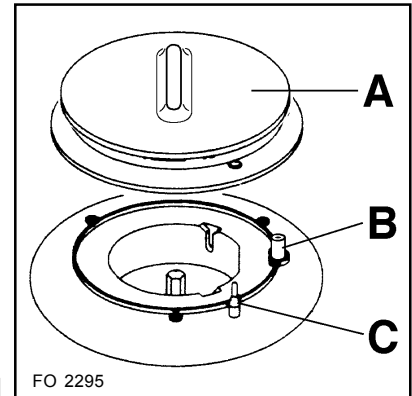

Fig. 1
- At the same time, keep the knob pushed down for about 5 seconds. This will allow the "thermocouple" (Fig. 1, lett. C) to be heated and the safety device to be switched off, otherwise the gas supply would be interrupted.
If you cannot light the flame even after several attempts, check the "cap" (Fig. 1, lett. A) is in the correct position.